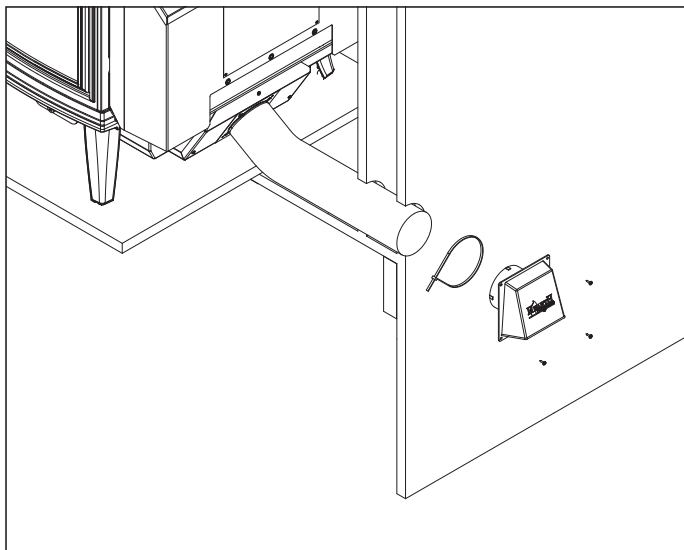

Figure 15.1 - Rear Installation
2. Using a #2 Phillips screw driver attach the flex adapter to the stove using 4 screws. **Figure 15.1 & 15.2**